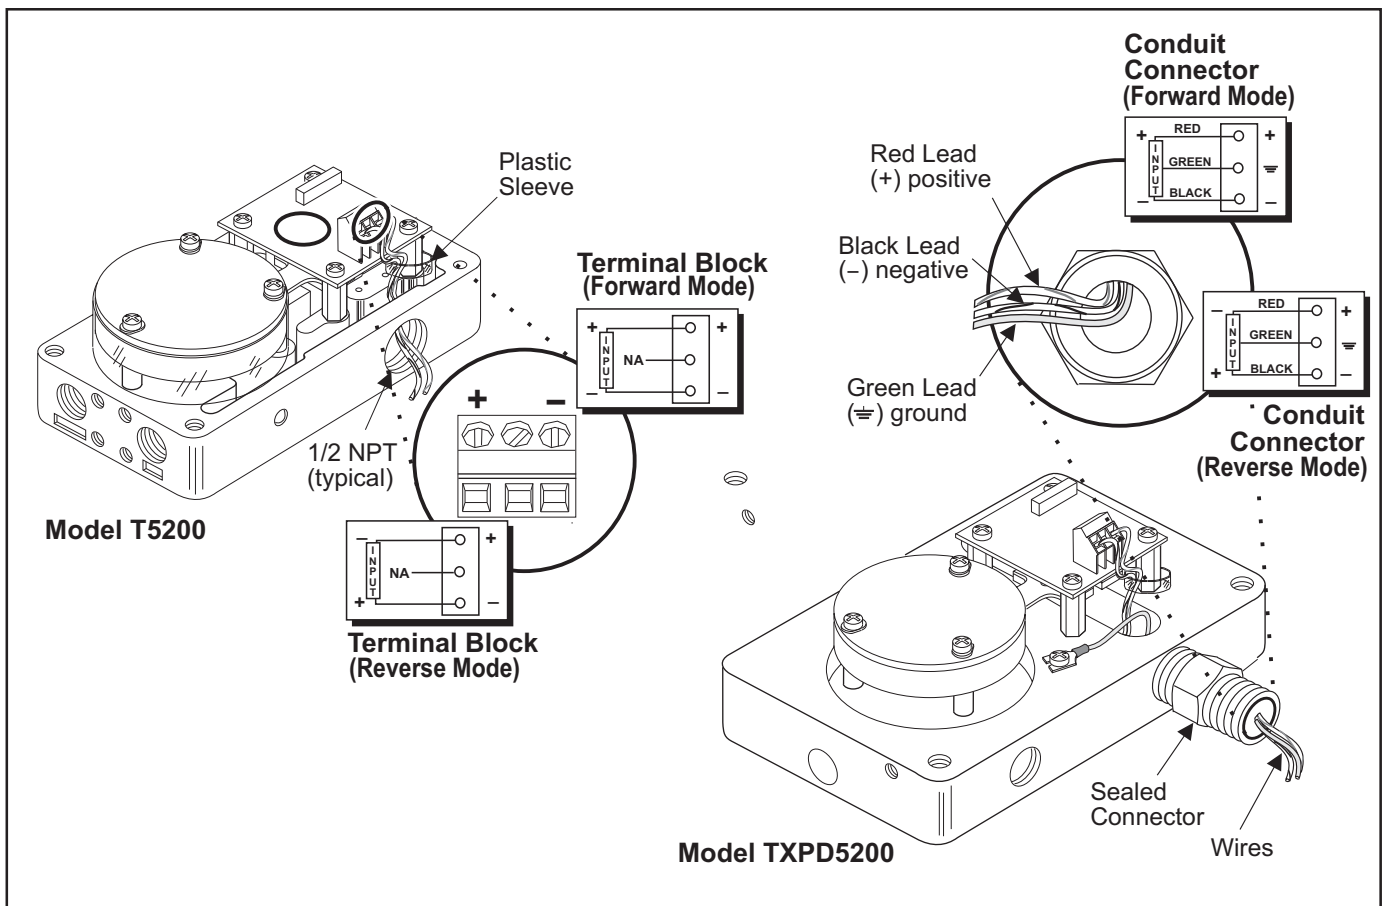

Figure 7. Electrical Connections.
For the T5200 Transducer, make connections to the Terminal Block through a 1/2 NPT Conduit Connector (not supplied) and a plastic sleeve as shown below in Figure 7. "Electrical Connections".
For the TXPD5200 Transducer, make connections from the Sealed Connector Wires to an external Terminal Block. The TXPD5200 Transducer has an additional ground wire that is used. For more information, see Figure 7. "Electrical Connections" below.
1. Connect the input signal to the transducer as shown in Figure 7. "Electrical Connections."
5. Reverse the input signal connections to the transducer as shown in Figure 7. "Electrical Connections."